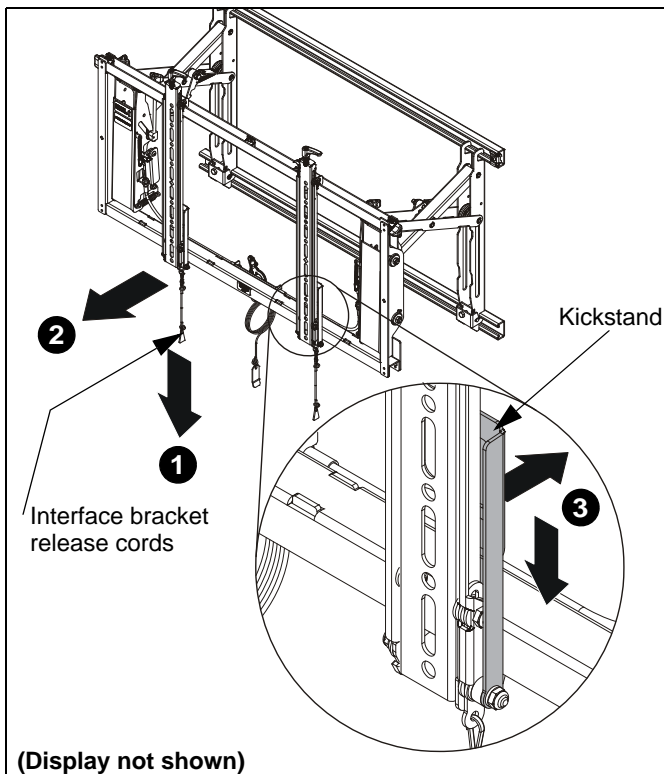

Figure 24
1. Pull down on interface bracket release cords. (See Figure 24)